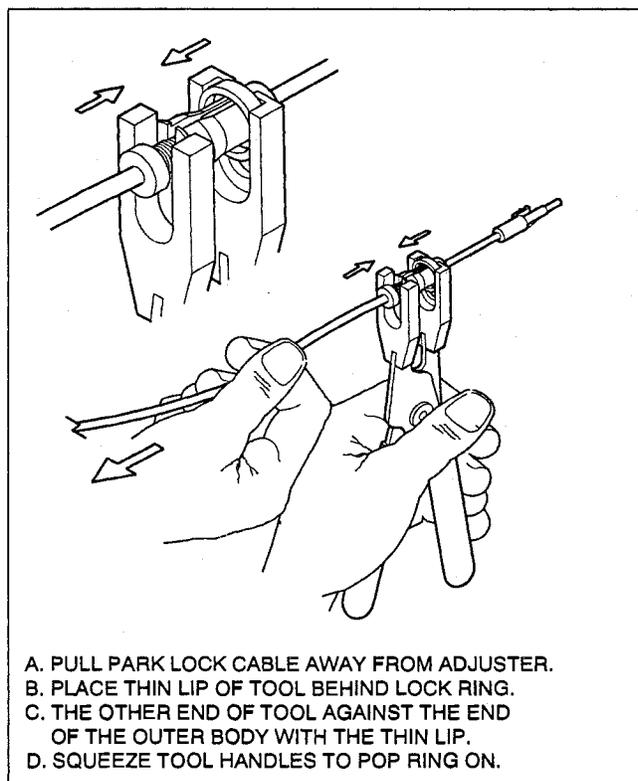

Figure 21 - Park Lock Cable Locking Adjuster Ring
- E. Lock adjuster ring securely in place on cable assembly (48) with tool J 41396. (See Figure 21)